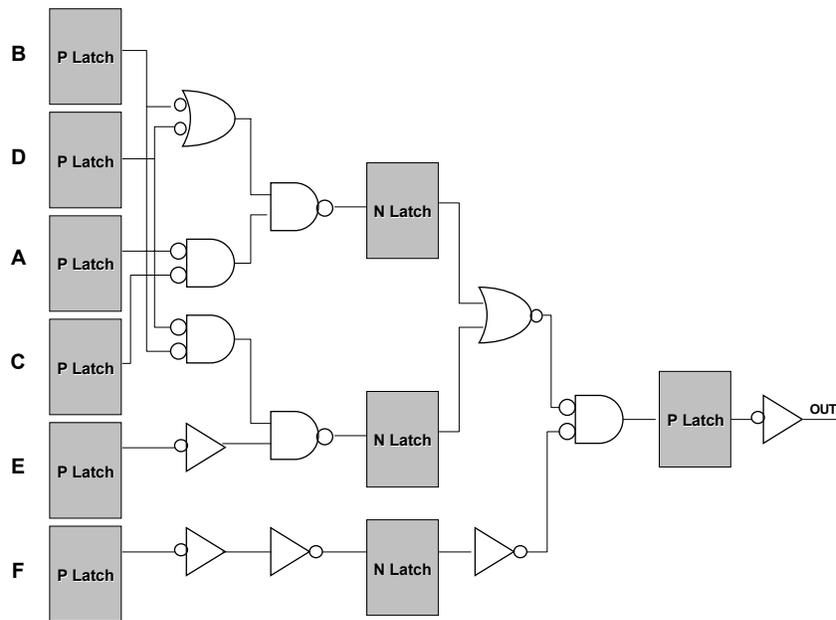

Figure 3.1
- d. Below, in Figure 3.1 is a simple pipelined implementation of the function using only one or two input gates. Each stage has two gate delays and there are 3 stages shown. Notice that the logic in each stage is "non-inverting" to maintain the clock overlap immunity of the C²MOS design.